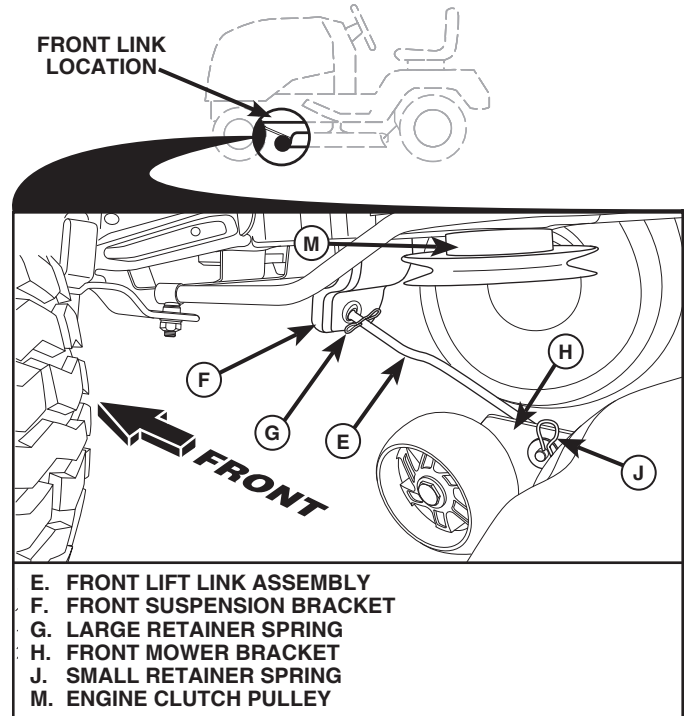

Fig. 12
8 ATTACH FRONT LINK (E) (See Fig. 12)
- From front of tractor, insert rod end of front link (E) through front hole in tractor front suspension bracket (F).
- Move to left side of mower and insert large retainer spring (G) through hole in front link (E) behind front suspension bracket (F).
- Insert other end of link (E) into hole in front mower bracket (H) and secure with washer and small retainer spring (J).